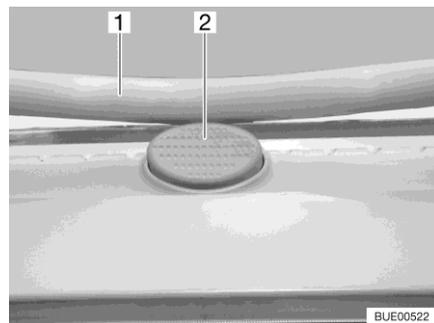

Fig. 80 Safety knob (Heki skylight)
- Press the safety knob (Fig. 80,2) and pull the bar (Fig. 80,1) down with both hands.
- Push the bar upwards with both hands until it is above the safety knob (Fig. 80,2).